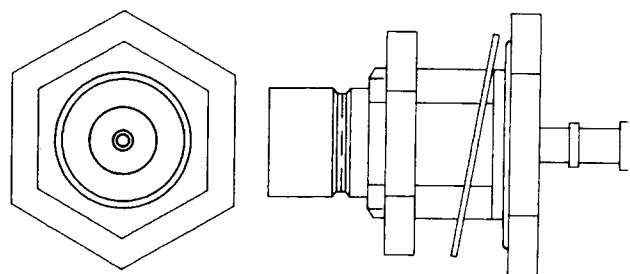

Fig. 13—KS-19929, L1 Connector
2.05 KS-19929, L1: The KS-19929, L1 (Fig. 13) is a miniature, 75-ohm, coaxial, snap-on, hermetically sealed, panel-mounted connector that is furnished with a lockwasher and hex nut for mounting. The KS-19929, L1 connector will mate with the KS-19903, KS-19904, and KS-19905 plugs. The KS-19929, L1 connector is used in SG submarine cable terminals.